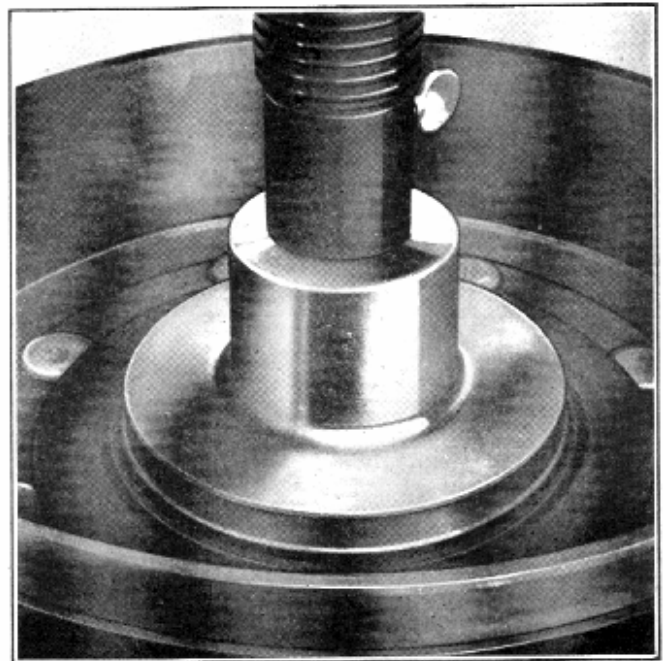

Fig. 24—Installing Front Hub Oil Seal Tool No. XG-19847
- Start a new seal squarely into the end of the hub. Install Tool No. XG-19847, making sure the step on the tool fits into the inner diameter of the seal. Press into place as shown in Fig. 24.